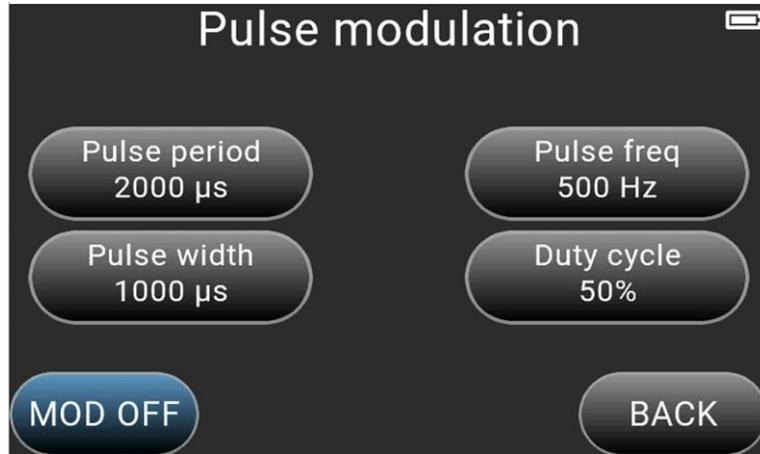

Figure 10.2 – Pulse modulation menu
10.3.1. Enter the pulse modulation menu **MOD** by pressing the button  on the screen of the device. The menu for setting the pulse modulation of the output signal is shown in Figure 10.2.